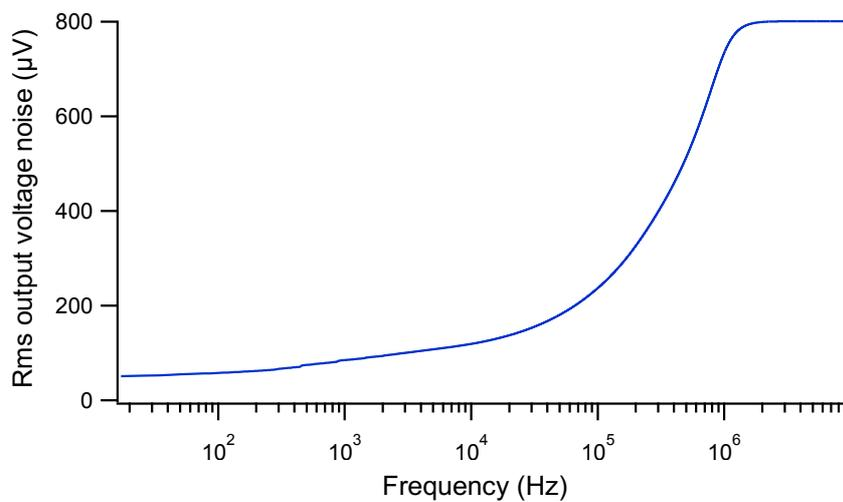

Figure 15. Cumulative output voltage noise as a function of maximum frequency
- Cumulative output noise spectrum (Fig. 15)